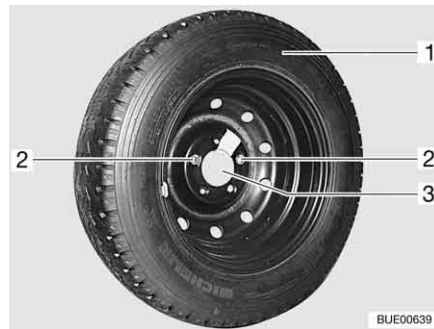

Fig. 297 Spare wheel support in the rear garage
- Loosen and remove both fixing screws (Fig. 297,2) with the on-board tool set.
- Remove the spare wheel (Fig. 297,1) from the support (Fig. 297,3).